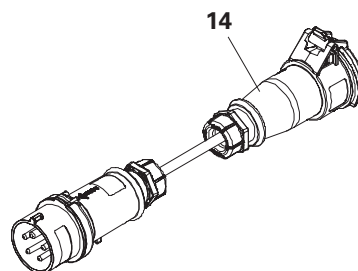

Fig. 16
Adapter Cable RCS (14) for operating voltage 400 V and a power supply line with CEE coupling 16 A (Art. no. 110280). (Fig. 16)